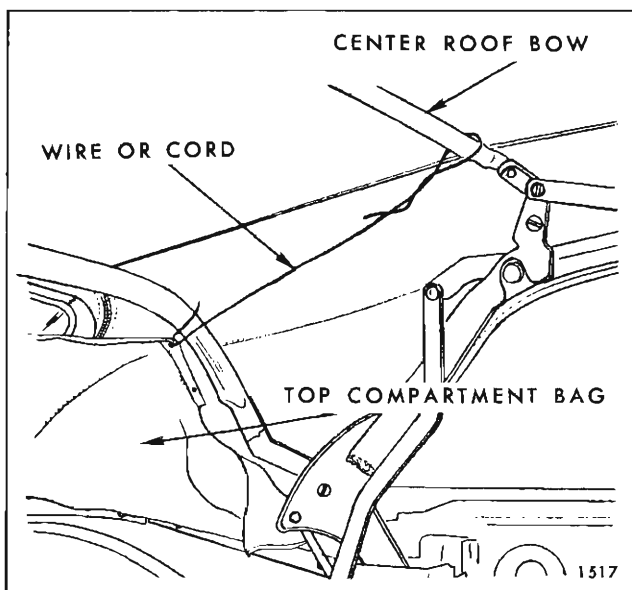

Fig. 5-I-39—Top Compartment Bag Tied to Center Bow
3. Detach folding top compartment bag from rear seat back panel, thus exposing rear quarter and rear trim stick attaching bolts. Forward end of top compartment bag may be tied or wired to center roof bow to provide ready access to attaching bolts. (Fig. 5I39).
4. At each rear quarter area, remove attaching bolts securing rear quarter trim stick assembly to rear quarter inner panel. (Fig. 5I40).
back curtain vinyl at both locations with a grease pencil. (Fig. 5I41). Reference marks should be transferred to new back curtain when step 3 of installation procedure is performed.
7. Using a pencil, mark both ends of rear and rear quarter trim sticks on vinyl surface of top material. (Fig. 5I42).